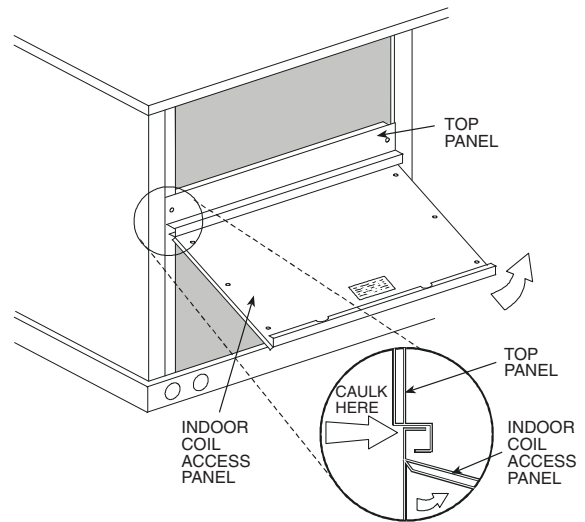

Fig. 13 — Indoor Coil Access Panel Relocation
- Install the two rain deflectors on the edge of the hood top as shown in Fig. 13.
- Caulk the ends of the joint between the unit top panel and the hood top as shown in Fig. 13.